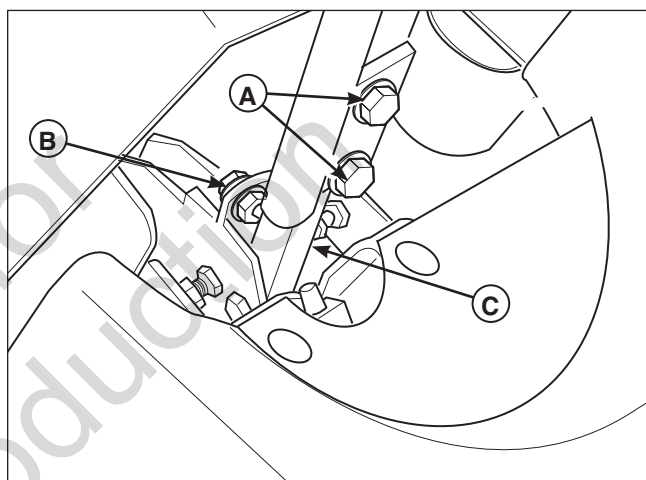

Figure 38. Control Lever Adjustment
Loosen the mount bolts (A, Figure 38) and pivot the lever(s) (C) to align with each other.
Loosen the jam nuts and adjust the placement bolt (B, Figure 38) in or out to properly adjust the lever end spacing.